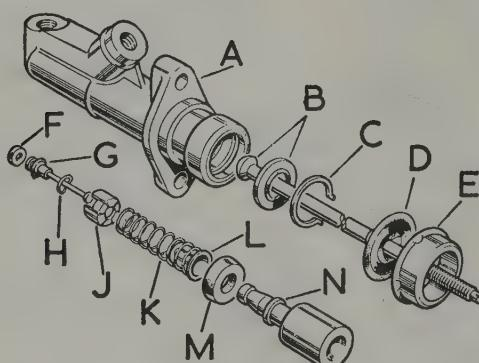

Fig. 9.25. Exploded view of Girling type master cylinder
- The internal parts of the master cylinder are shown in Fig. 9.25.